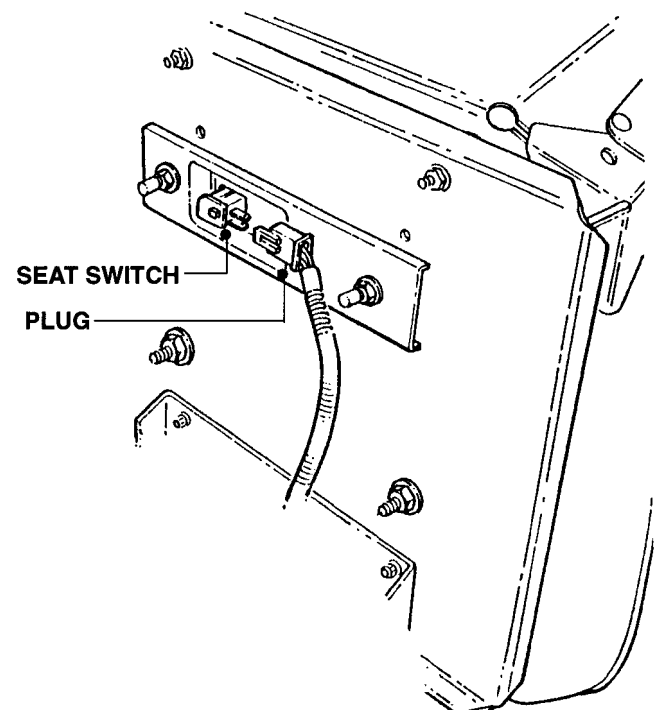

FIGURE 3.12
1. Disconnect Seat Switch Plug from Seat Switch. See Figure 3.12.